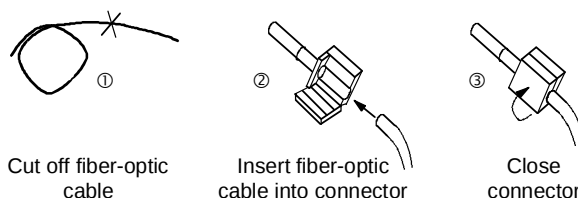

Fig. 4-4 Connecting the cable
1. Cut off the required length of fiber optic cable by cutting at right angles to the cable. Use a **sharp** knife for this purpose (Fig. 4-4 ①).
3. Put the fiber optic cable into the plug-in connector (Fig. 4-4 ②) and push it into the cylindrical sleeve as far as it will go. The transparent fiber optic cable then protrudes from the sleeve.
4. Fold round the gripping halves of the plug-in connector and close it by hand (Fig. 4-4 ③). When the top gripping half latches into the lower one, the cable is fixed firmly in the connector.